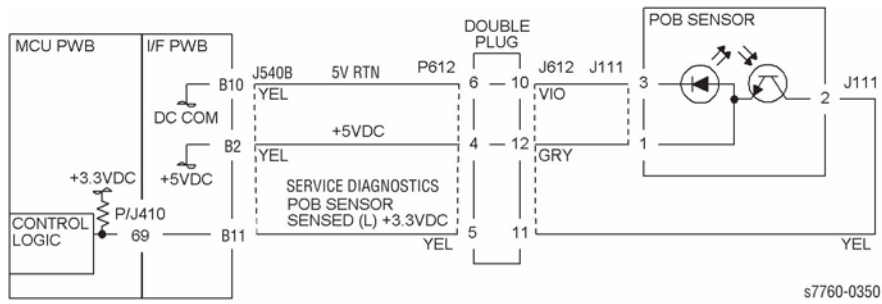
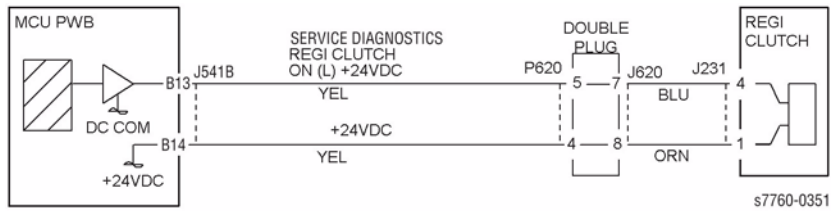

Figure 1 008-164 POB Sensor
Figure 2 008-164 Registration Clutch
- Ensure that the connectors shown in the circuit diagrams (Figure 1, Figure 2) are securely connected and that the wires are not damaged.